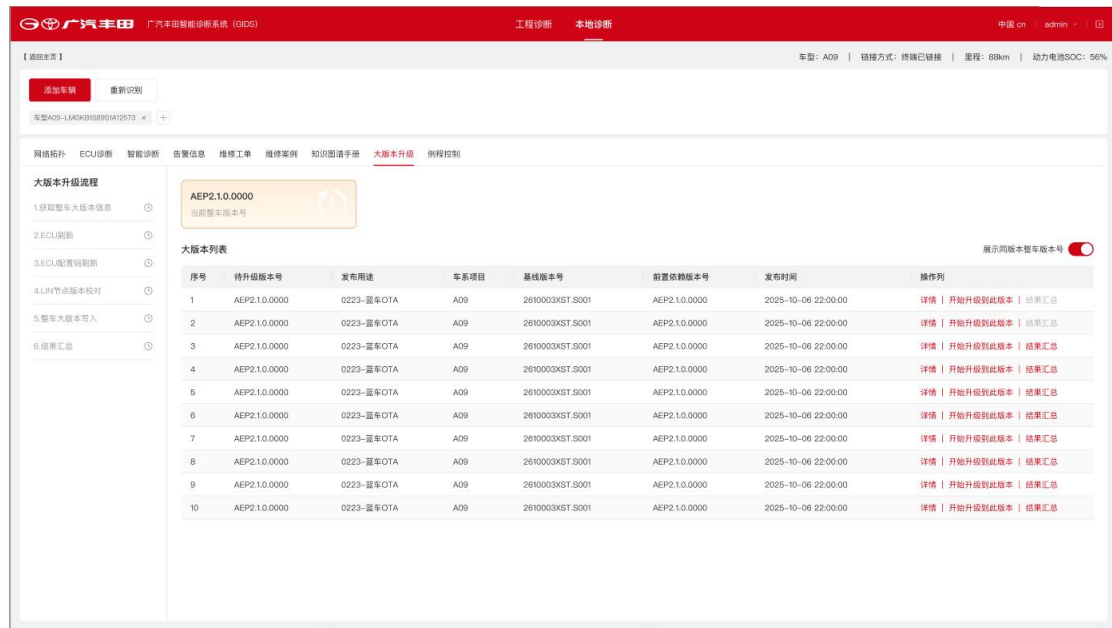

Figure 6-1 Major Version Upgrade
1. Click Major Version Upgrade as shown in Figure 6-1 to enter the Major Version Upgrade page.